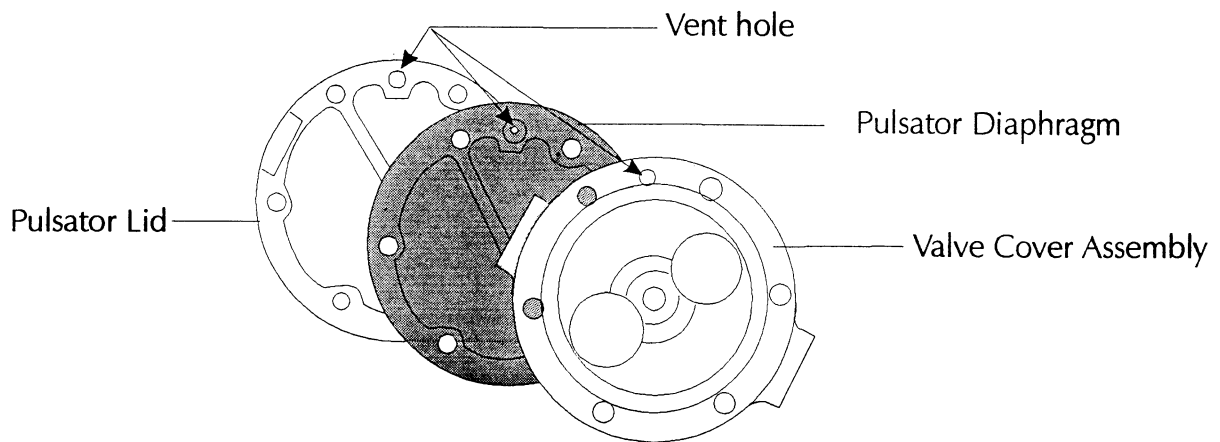

Figure 3.
8. Place the pulsator diaphragm over the pulsator lid, aligning the small hole near the diaphragm periphery with the lid chamber vent hole. (Refer to Figure 3.)